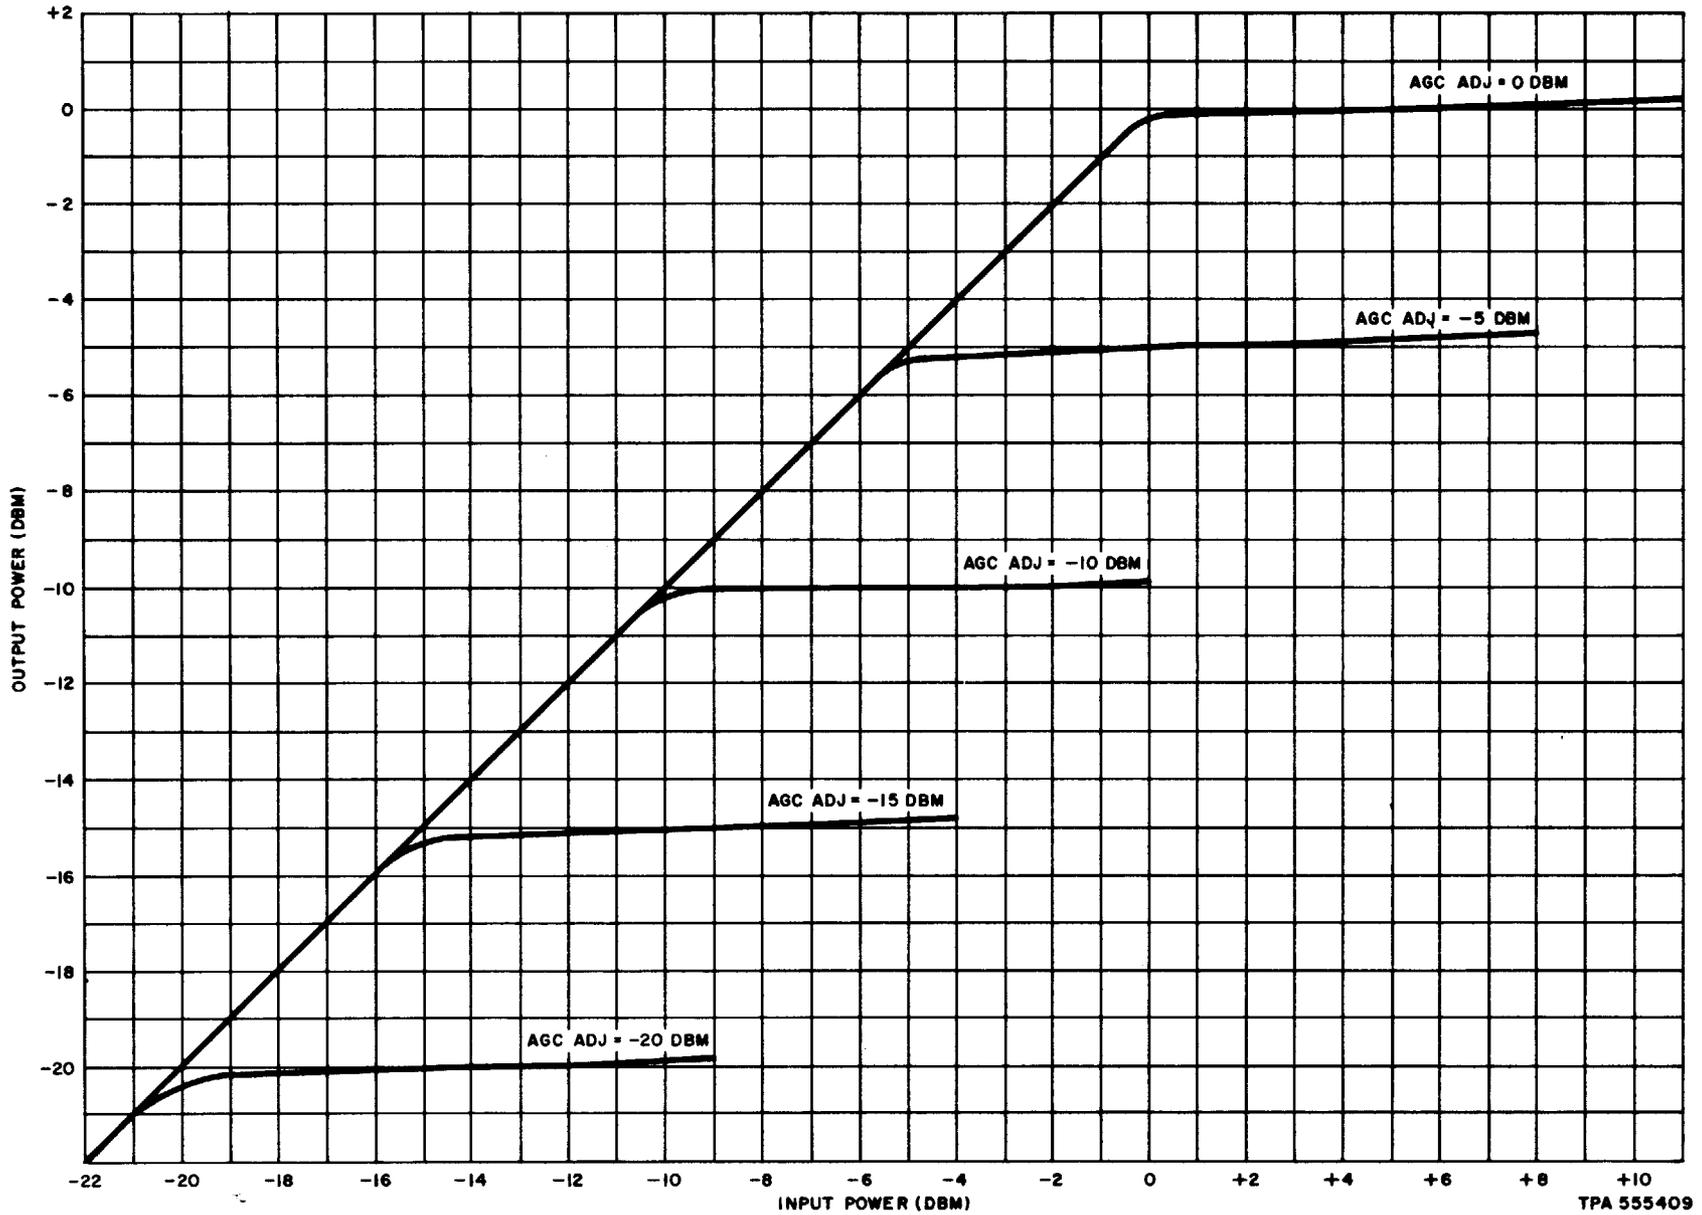

Fig. 3—F58122 Amplifier—Output Versus Input Power
**4.01** Signals greater than the AGC ADJ level are clamped to the AGC ADJ level after an interval varying from 1 to 3 seconds (see Fig. 3).